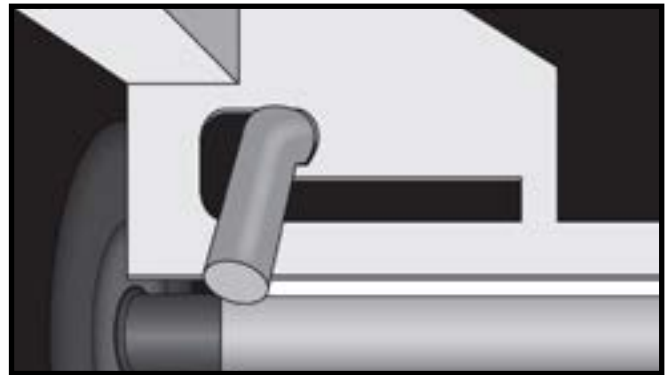

Figure 22: First-Generation Cart Brake Lever Position for Manual Towing
- In the event of a loss of battery power or another issue with the drive system, the cart can be manually towed. In this case, the brake lever should be in Position B (Figure 22), and the cart should be towed at a maximum speed of 3 mph. Higher speeds may cause a tip hazard or damage to the electric drive system.